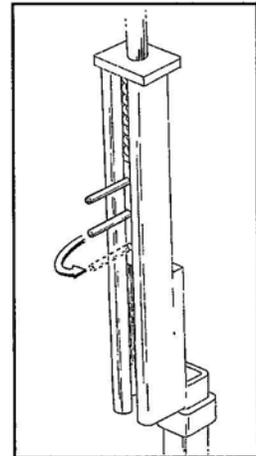

Figure 31
34. On tall units, the excess chain movement may cause the limit switch to activate prematurely. In these cases, move the lower roll pin to the lower hole in the chain tensioner block to allow for more movement in block. See Figure 31.